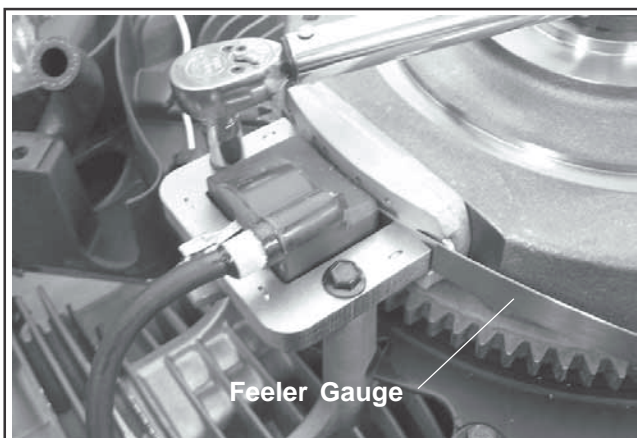

Figure 10-82. Setting Ignition Module Air Gap.
5. Insert a **0.30 mm (0.012 in.)** flat feeler gauge between the magnet and the ignition module. See Figure 10-82. Loosen the screws enough to allow the magnet to pull the module down against the feeler gauge.